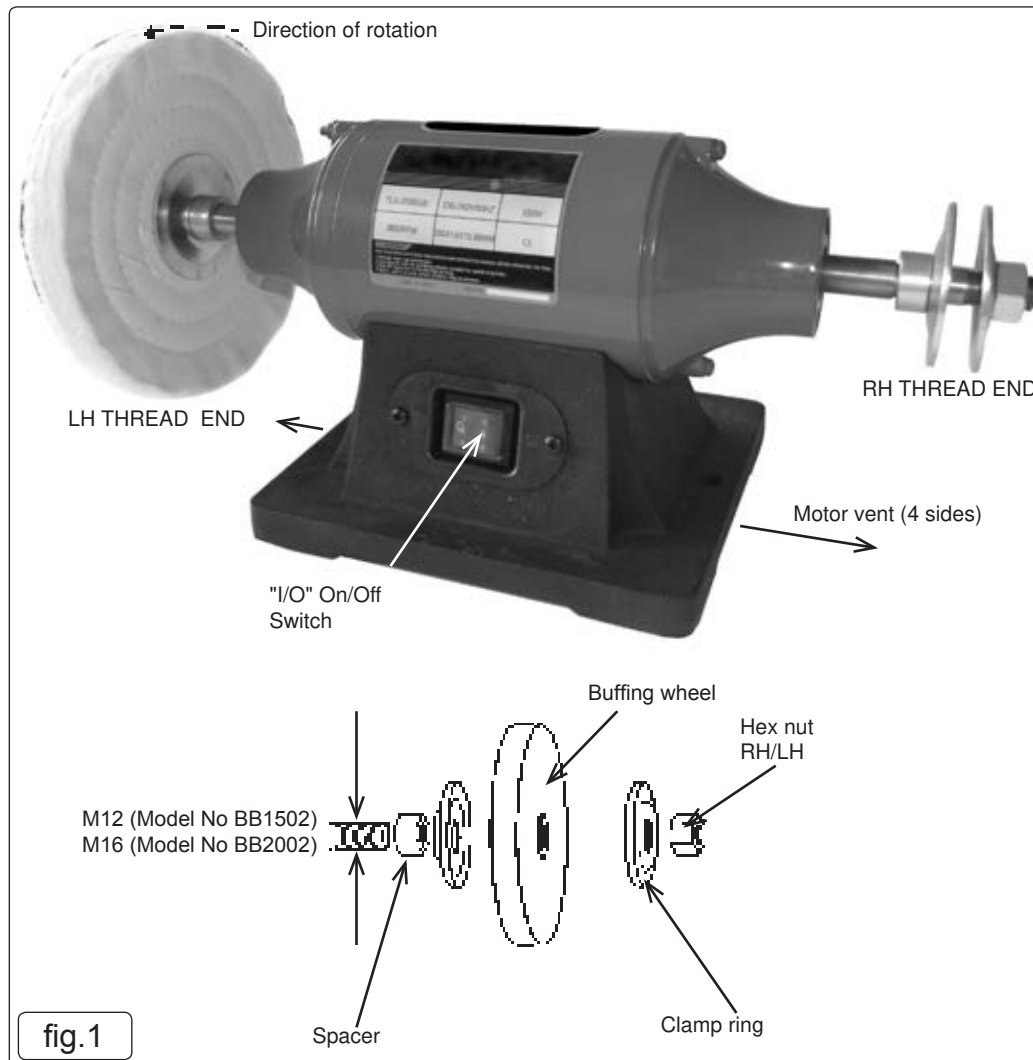

fig.1
- 4.2. **Wheel Fitting (fig.1)**